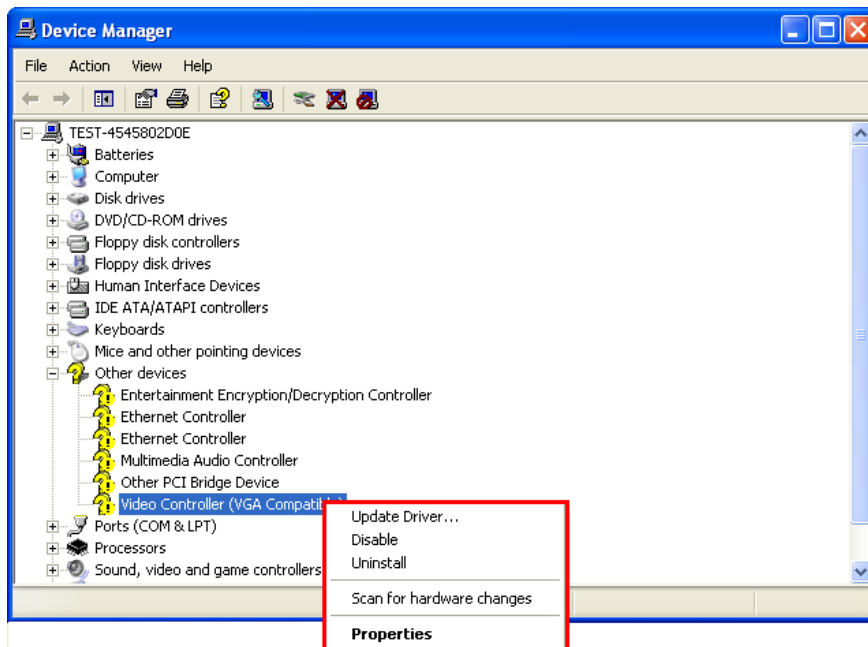

Figure 7-8: Update Driver Selection
Step 3: The small window in Figure 7-8 appears.
Step 4: Select the **UPDATE DRIVER** option in the small window shown in **Figure 7-8**.